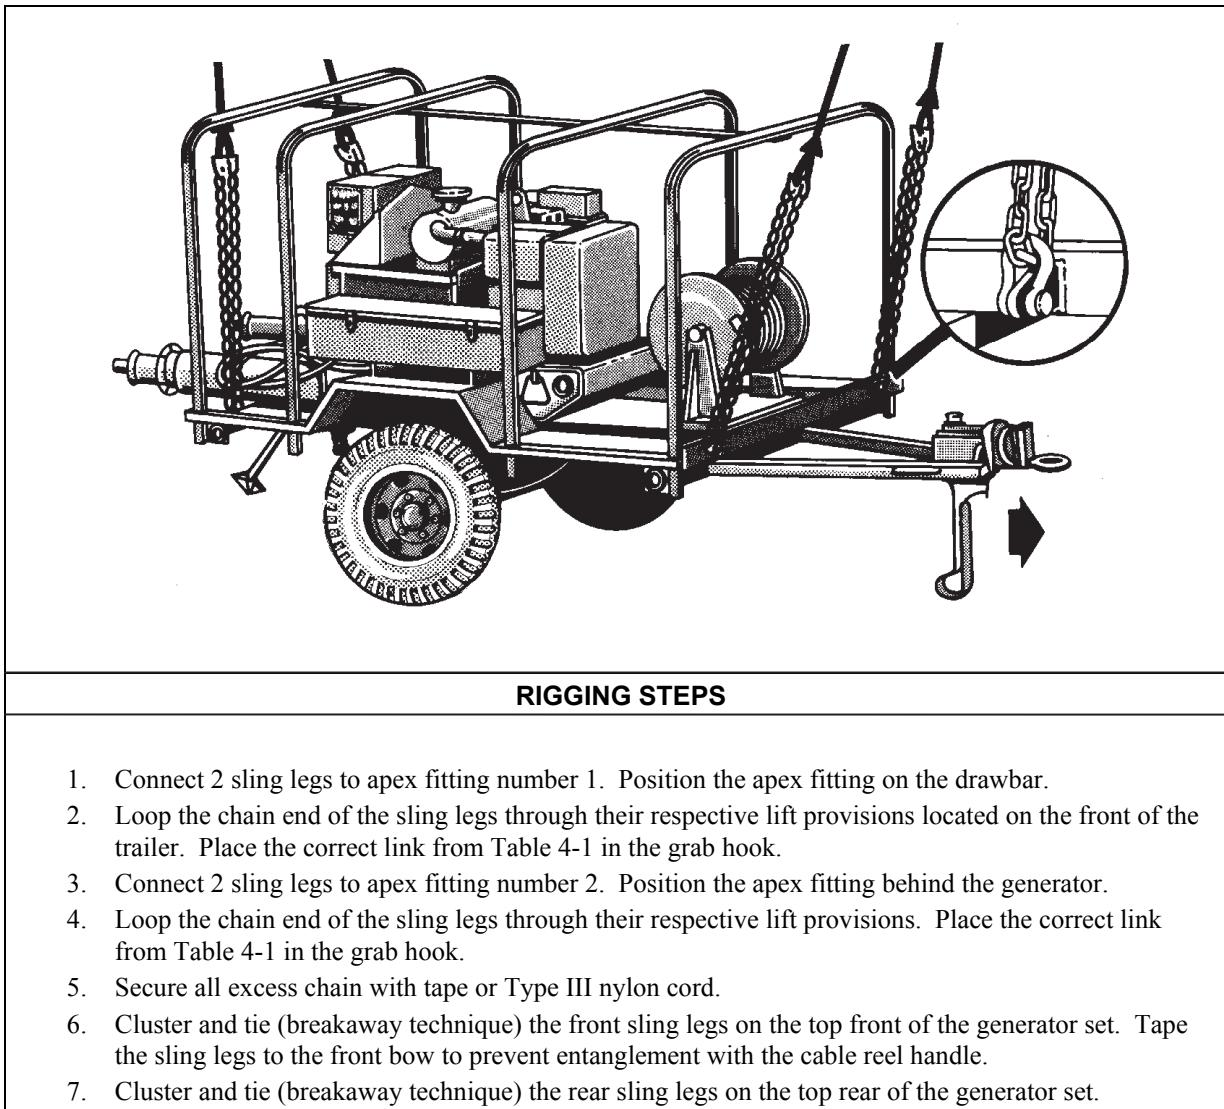

Figure 4-1. M116A2 Trailer-Mounted Power Units, Generators, and Power Plants
- **Rigging.** Rig the load according to the steps in Figure 4-1.